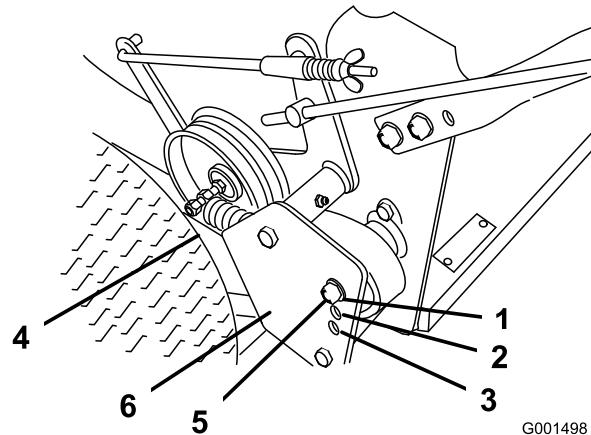

Figure 10
4. Remove the drive spring from the adjustment bolt (Figure 10).
5. Remove the locknut that secures the adjustment bolt to the drive pulley shield (Figure 10).
Note: The wheel drive tension is lowest when the bolt assembly is in Position A. The tension increases in Positions B and C (Figure 10).